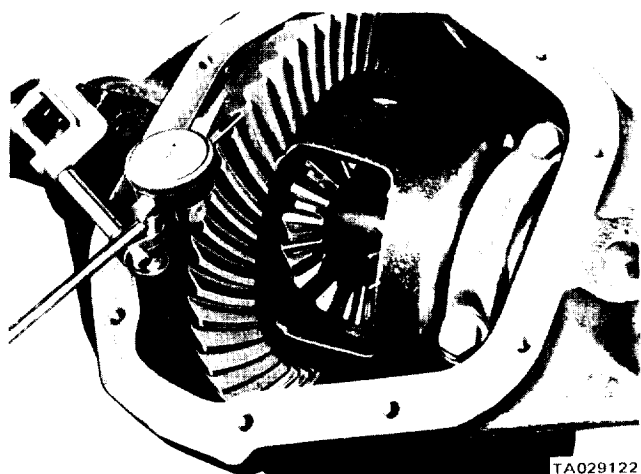

Figure 19-20. Checking Backlash Between Drive Gear and Pinion.
h. Attach a dial indicator to the carrier. With the indicator contact point contacting the ring gear tooth (figure 19-20), measure the backlash between the ring gear and drive pinion.